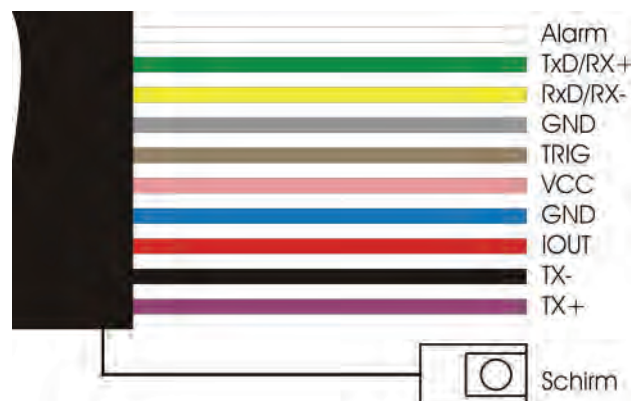

Fig. 3 Interface cable colour codes
- a. **OU2**: set to '1' (Fig.3).